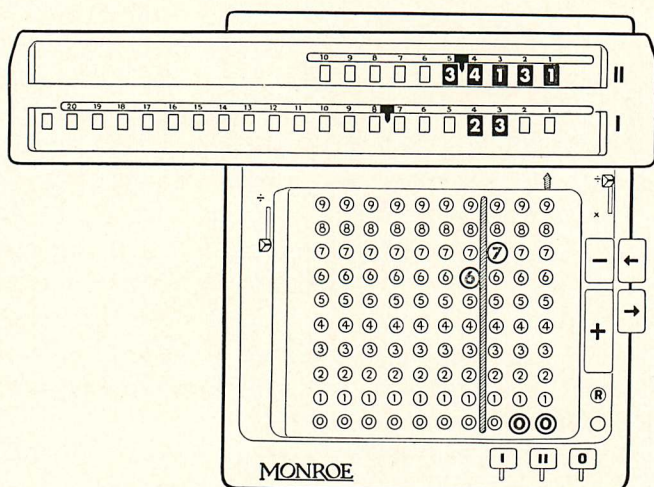

Figure 12
*Step 7*—The result, 3.4131, appears in the upper dials in correct position with relation to the decimal point which was previously set. (Figure 12). The .0002300 in the lower dials is the remainder. Clear entire machine; as the keyboard is cleared the shift lever returns to the  $\times$  position.